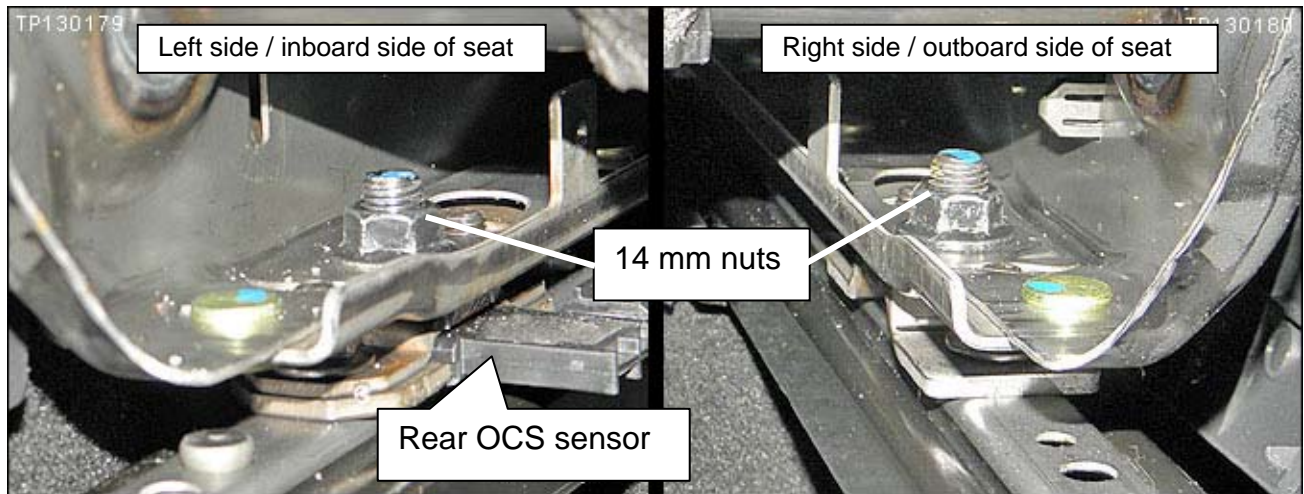

Figure 6
- From under the rear of the passenger seat, remove the 14 mm nuts from the rear of the seat frame (see Figure 6).